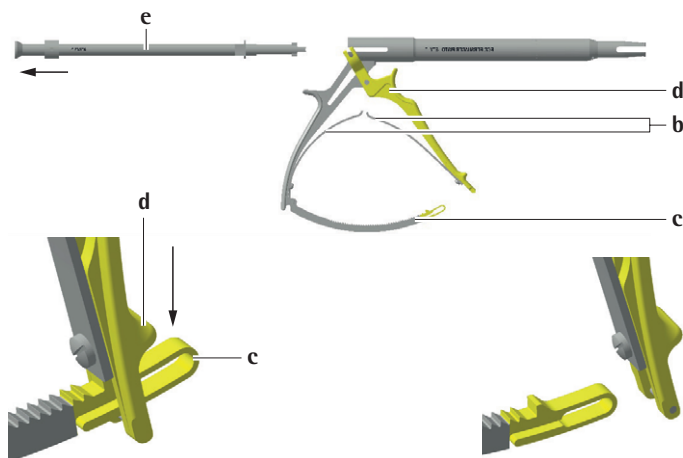

Fig. 65
- ▶ Release the ratchet c completely by pressing the ratchet c down while holding the trigger d, see Fig. 65.